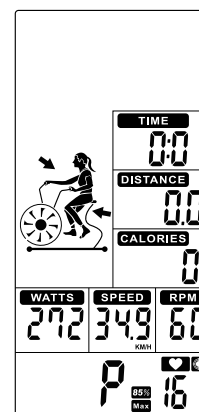

Figure 46
- ③ When start workout, **MAX HR** lights up, 65% & 85% Heart rate will switch to display. TIME/ DISTANCE/ CALORIES/ WATTS/ SPEED/ RPM will calculate workout value (Figure 46).